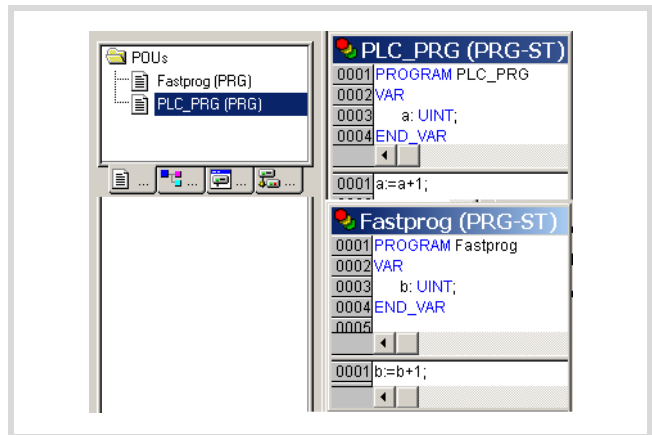

Figure 29: Writing a program
- Create the POUs "PLC\_PRG" and "Fastprog" as shown in figure 29.